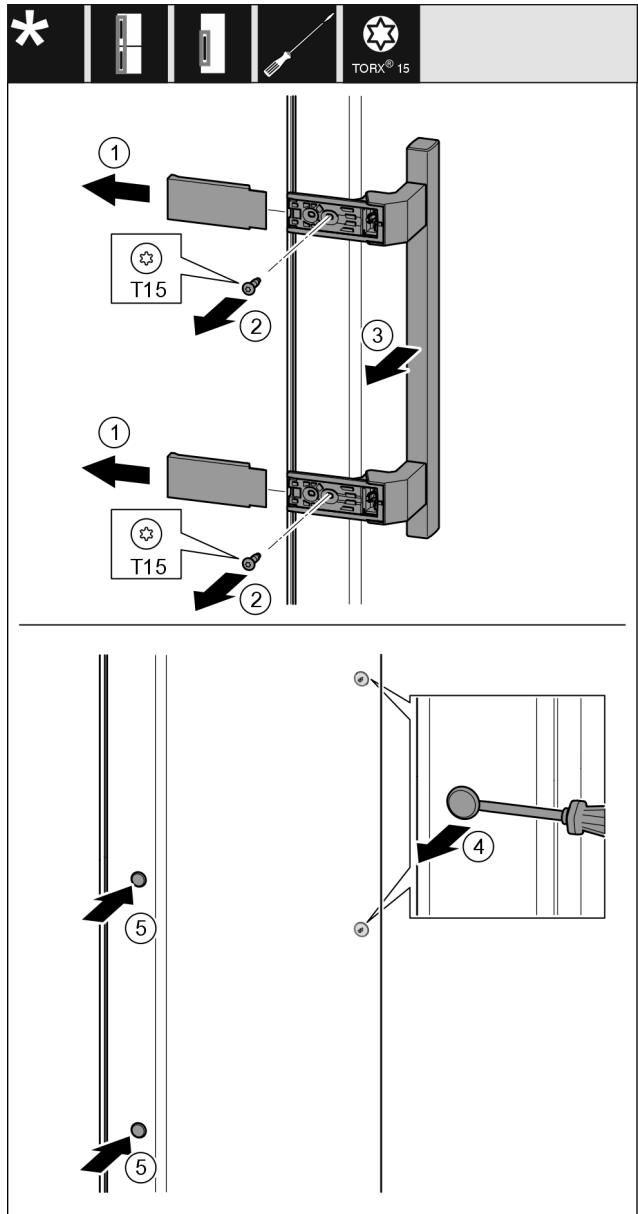

Fig. 29
- ▶ Remove the cover *Fig. 29 (1)*.
- ▶ Unscrew screws *Fig. 29 (2)* with screwdriver.
- ▶ Remove the handle *Fig. 29 (3)*.
- ▶ Use a slotted screwdriver to lift the side plug *Fig. 29 (4)* carefully and pull it out.
- ▶ Re-insert the plug *Fig. 29 (5)* on the other side.